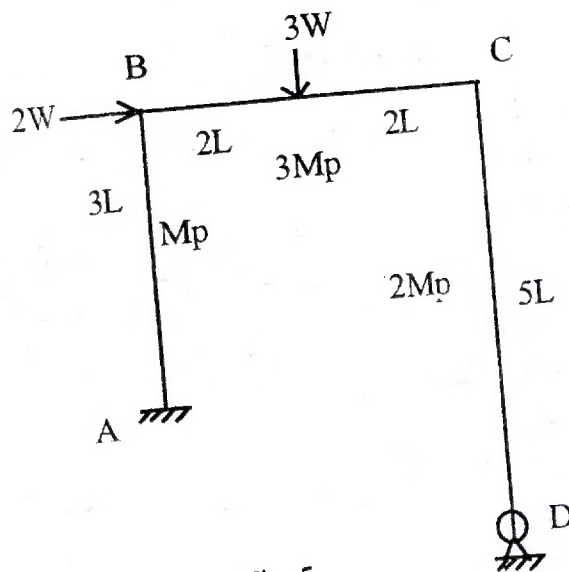

Fig. 5
- (b) For the portal frame shown in Fig. 5, Compute the true value of collapse load. 10